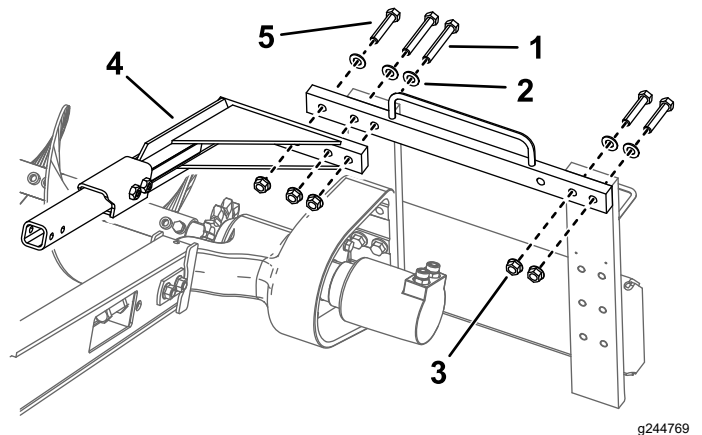

Figure 10
1. Bolt (6)
8. Remove the 2 bolts (5/8 x 3 inches), 2 washers, and 2 nuts securing the right side of the upper frame and move them to the corresponding holes on the left (Figure 10).
1. Bolt—5/8 x 4 inches (2)
2. Washer (5)
3. Nut (5)
5. Bolt—5/8 x 3 inches (3)
9. Install the safety-rail assembly over the trencher chain using the 3 bolts, washers, and flange nuts removed previously (Figure 10).